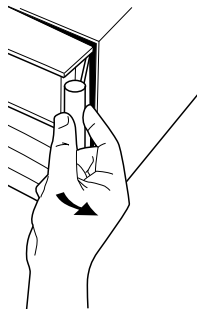

Figure 1. Opening Router Door
2. Open the front door of the router by pulling its lock—the round post at the upper right—to the right. (See figure 1.)